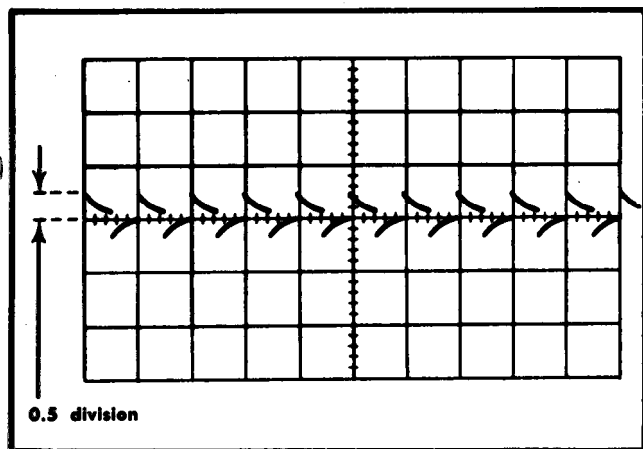

Fig. 6-59. Typical CRT display when checking calibrator current.
- CHECK-CRT display 0.5 division in amplitude (five milliseconds; see Fig. 6-59).